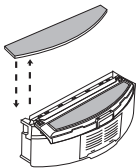

Fig.1
2. You can then attach one mop pad to the velcro (refer Fig.1).